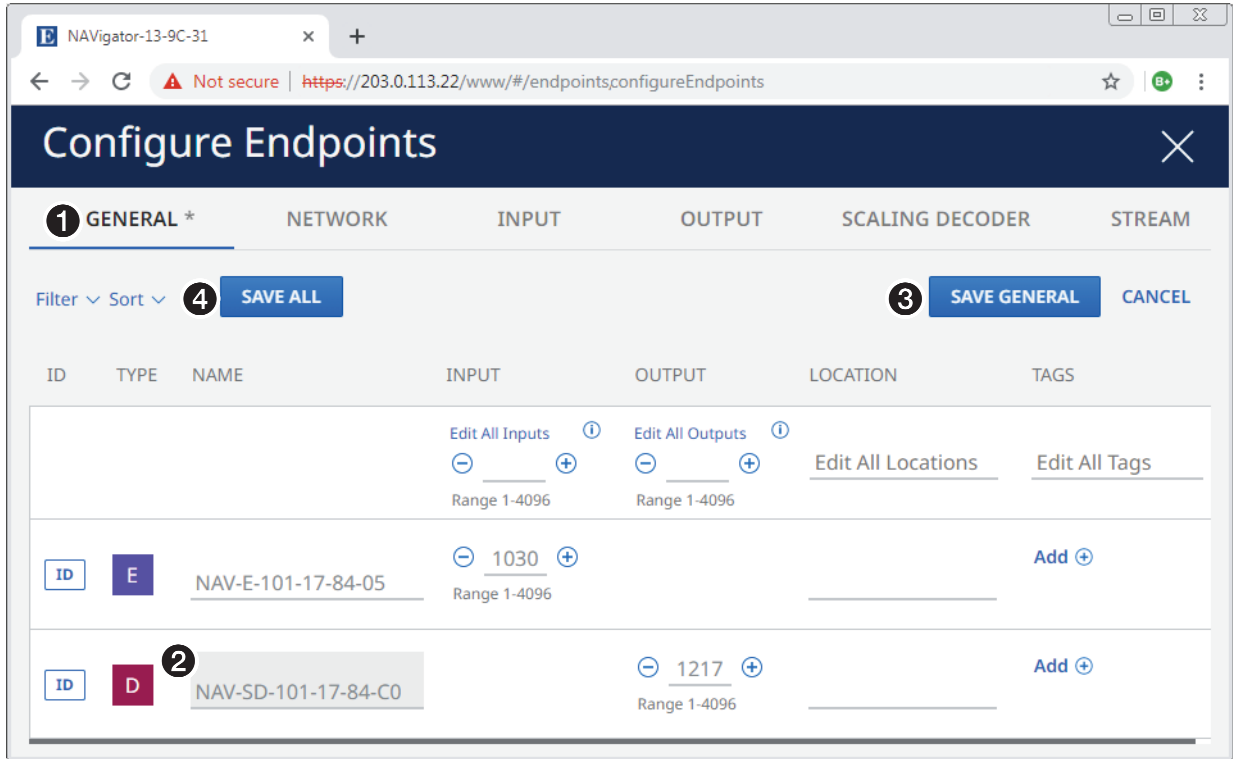
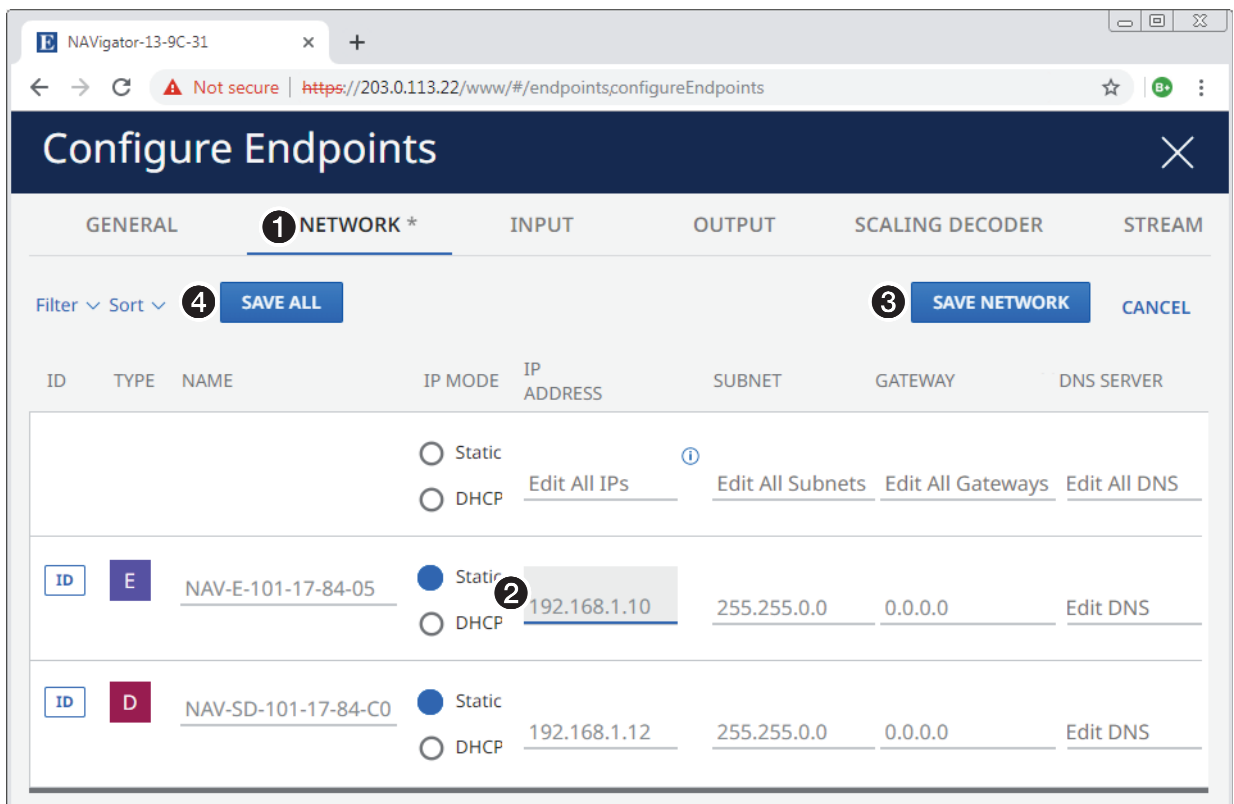

Figure 28. Configure Endpoints > General
Figure 29. Configure Endpoints > Network
4. Click **Actions** (**5**) > **Configure** (**6**). The Configure Endpoints page opens (see figure 28 and figure 29, both on page 28).
5. Click the **General** link (see figure 28, **1**) and the **Network** link (see figure 29, **1**) as necessary to make the desired changes to the settings shown on the figures.
6. Click in one or more fields to be edited and make changes as necessary (see figure 28, **2** on figure 29, **2**, both on page 28).